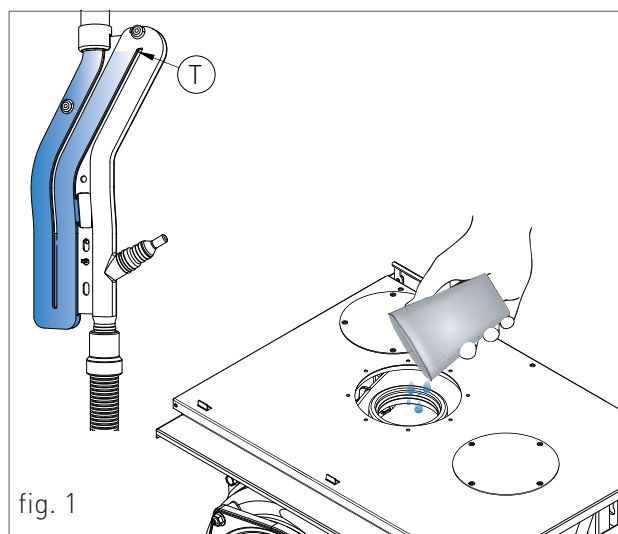

fig. 1
- › turn the diverter valve onto the position “recirculation”, as shown ‘RC’ in figure 1.
- › Turn the three-way valve to the “recirculation” position, as shown in Figure 1 as ‘RC’.
Fill the condensate collection siphon as follows (see fig. 1):
- › With a glass pour the water in the heat exchanger's flue exhaust duct outlet (see fig. 1), up to fill the condensate trap to the highest point "T" (fig. 1);